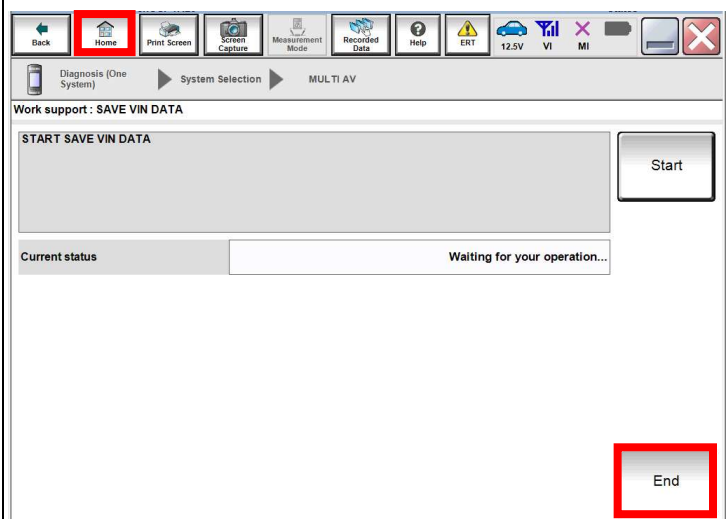

Figure 5
6. Wait for Current Status to show completed, then select **End.** (Figure 5)
- Select **Home** (Figure 5)